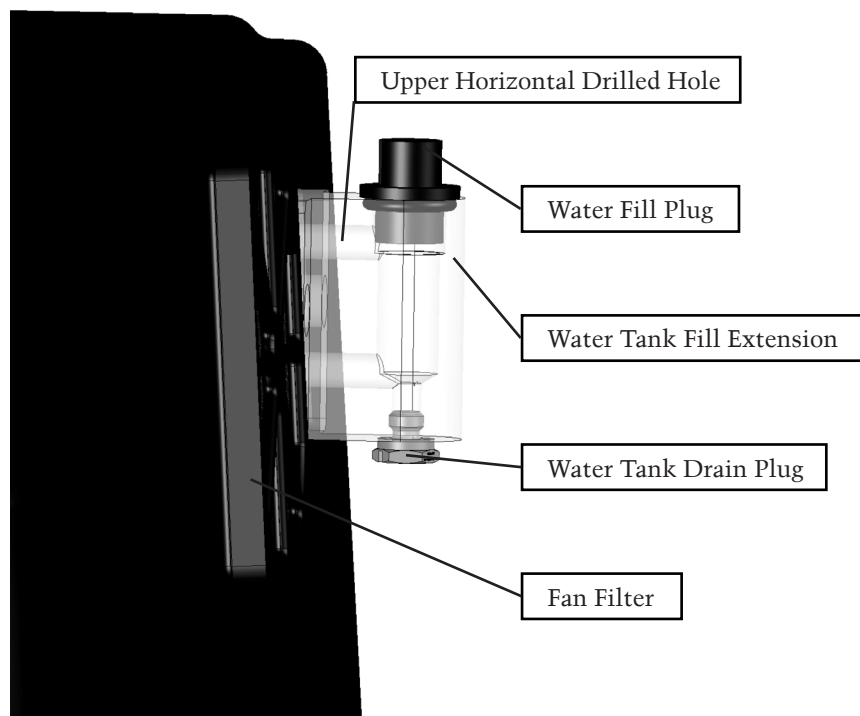

Figure 3: Tank fill extension
- Remove the black plug on the clear plastic tank fill extension located on the back right of the VSA. (see Figure 3: Tank fill extension). Fill the tank with deionized water until full. Reinstall the black plug once finished. It is not necessary to tighten the lid with a screwdriver, hand-tight is good enough.
- Figure 3 shows the location of a filter that will need to be removed from time to time when dust builds up on it. The housing around the filter is a snap on housing that is easily removed.